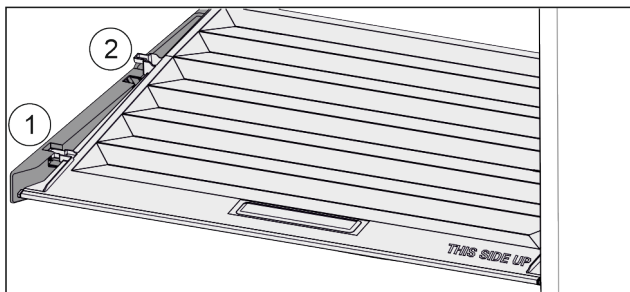

Fig. 106
- ▶ Pull the lid up at the front to the opening in the retaining parts Fig. 106 (1).
- ▶ Lift from the back and pull it up and out Fig. 106 (2).